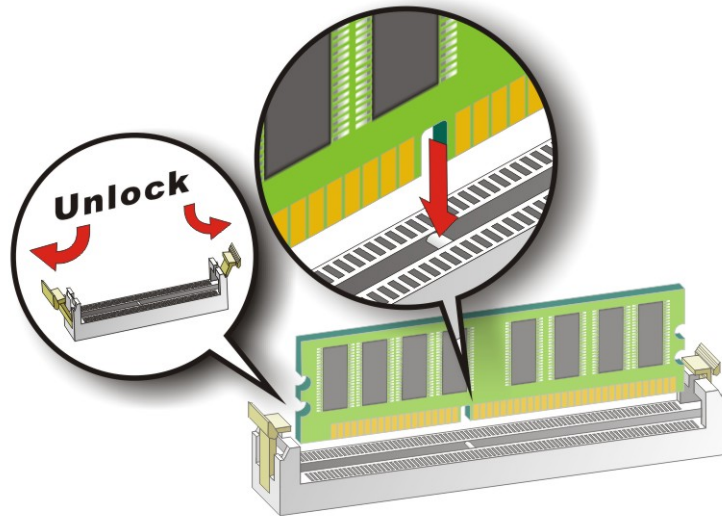

Figure 5-1: Installing a DIMM
To install a DIMM into a DIMM socket, please follow the steps below and refer to Figure 5-1.
Step 1: Open the DIMM socket handles. The DIMM socket has two handles that secure the DIMM into the socket. Before the DIMM can be inserted into the socket, the handles must be opened. See Figure 5-1.
- Step 2: Align the DIMM with the socket.** The DIMM must be oriented in such a way that the notch in the middle of the DIMM must be aligned with the plastic bridge in the socket. See Figure 5-1.
- Step 3: Insert the DIMM.** Once properly aligned, the DIMM can be inserted into the socket. As the DIMM is inserted, the white handles on the side of the socket will close automatically and secure the DIMM to the socket. See Figure 5-1.